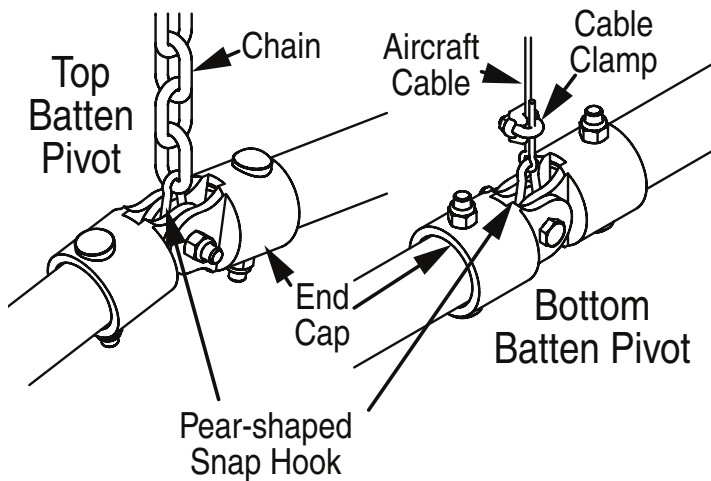

Figure 3
- ① Lay the curtain out with the top of the curtain close to the dangling aircraft cables.
- ② Slide 1 5/8" top and bottom batten tubes into pocket one section at a time, assembling as you go. Use 1 3/8" OD x 14" tube to connect section of batten tube. Splice should be installed so equal portions are inside tube that is being connected (see Fig. 3). Rotate batten to align the pre-drilled and tapped holes in batten. Secure with 5/16" x 1/4" set screws.
- ⑥ Thread cables through grommets in curtain.
- ⑦ Slide bottom batten into bottom pocket one section at a time, assembling as you go. SEE BATTEN LAYOUT SHOP DRAWING.
- ⑧ At pivot points, pass cable through pear-shaped snap hooks. At other attachment points, cut a **small** slit in the upper part of the pocket and wrap cable once around 1 5/8" bottom batten. Secure with cable clamps, and trim excess cable (see Fig. 3).